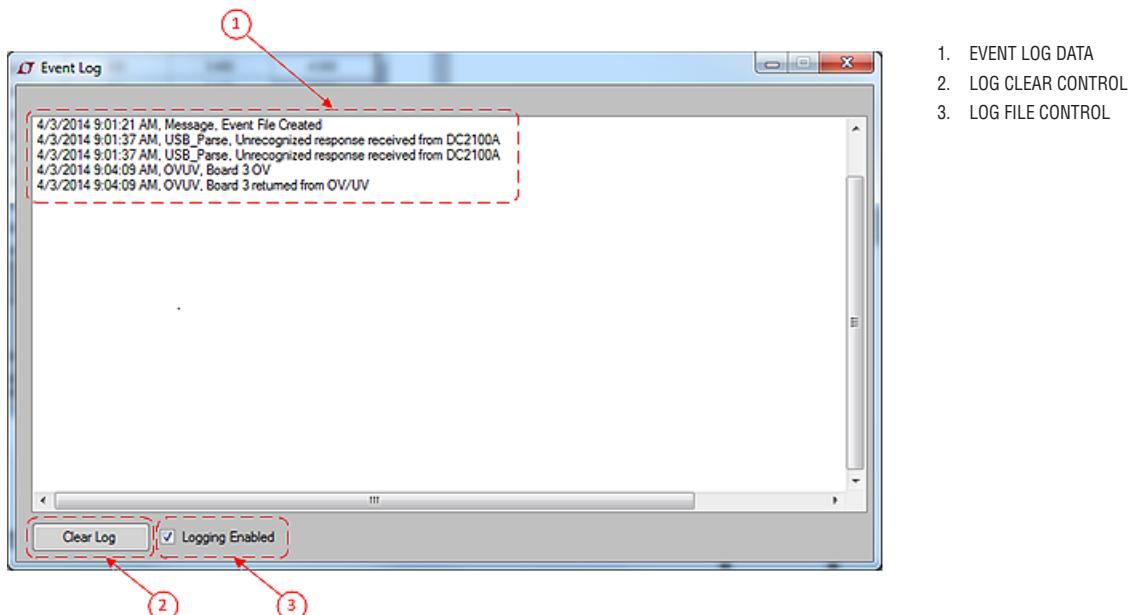

Figure 32. Event Log Window
4. EVENT LOG WINDOW – FIGURE 32